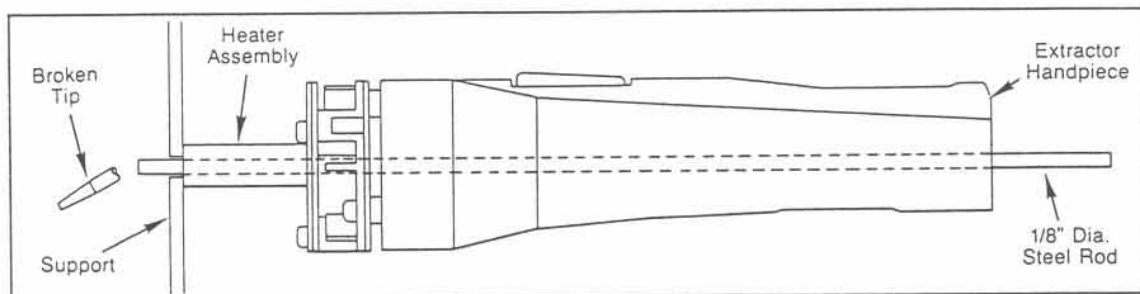

FIGURE 9. REPLACEMENT OF JAMMED OR BROKEN EXTRACTOR TIPS
- while holding Extractor, insert a steel rod (slightly less than 1/8" diameter) into rear of Handpiece through the Heater Assembly to ram broken Tip from Heater Tube (refer to Figure 9). (NOTE: The Heater should be "HOT" for ease of removal).